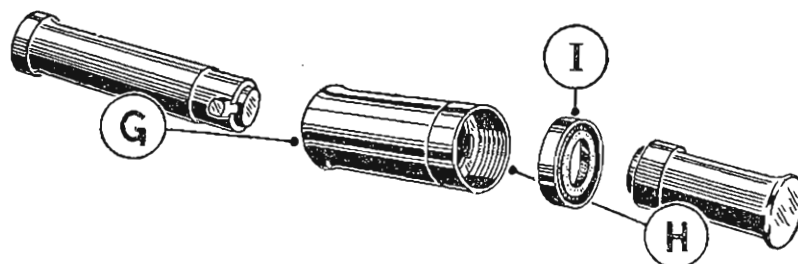

Fig. C39A.
If it is necessary to remove the oil seal place the lower edge of the holder on a soft wooden block and enter Service Tool number 8 43 61-3006 into the top of the holder (G) Fig. C39A.
If the oil seal is to be replaced care must be taken to see that the feather edge of the seal is not damaged. Enter the oil seal into the holder, metal part first, and drive home using Service Tool number 8 36 61-3007 (H) Fig. C39A.